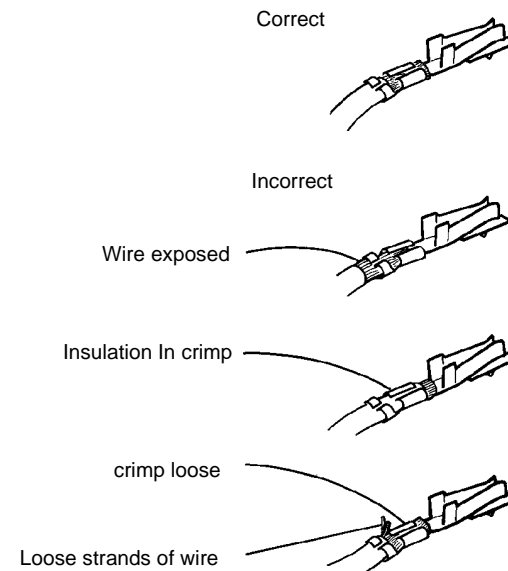

Figure 4 Inspecting the finished crimp.
5. **Figure 4.** Check that the crimp is correctly made.